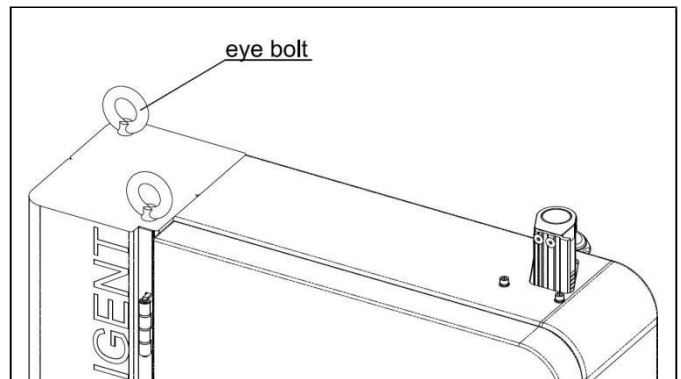

Fig. 6-2
2. As shown in Fig. 6-2, install the two supplied eye bolts into the mounting holes at the top of the column.
**Warning:** There is an eye bolt on the motor intended solely for removal or installation of the motor only. Do not use the eye bolt located on the motor body for lifting the machine as this could damage the motor. When lifting the machine via the eye bolts, only use the two eye bolt points located on top of the machine frame shown in Fig 6-2.